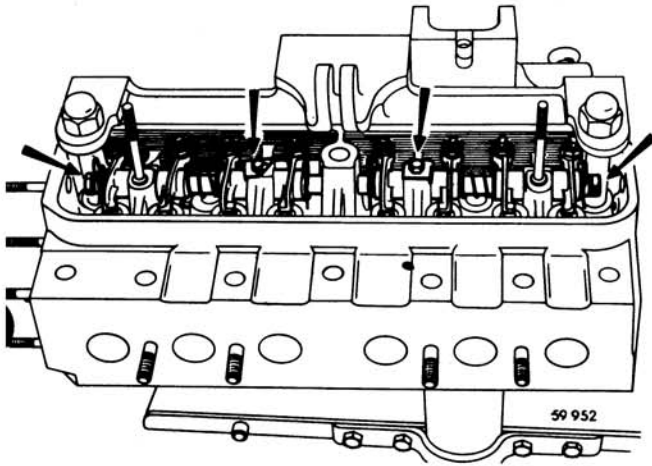

FIGURE 15. INSTALLING ROCKER ARM ASSEMBLIES
4. Insert the rocker arm shafts (with the set bolt holes in line with the set holes in the bracket), fitting the rocker arms and springs one after the other as the shaft is assembled to the head. Screw in the two shaft set bolts and lock them. Place the rubber plugs at the cylinder head ends (Figure 15).